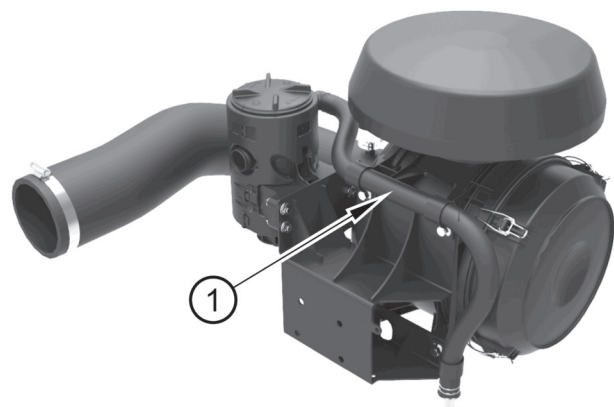

Figure 37
The breather hose (figure 37 item 1) helps to vent the vapours created in the engine.